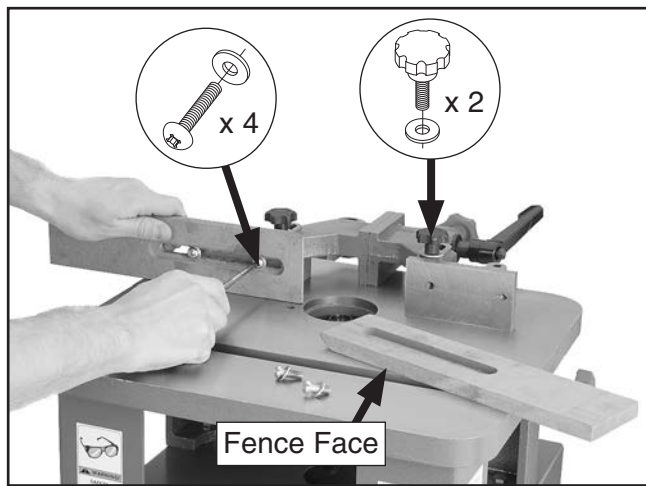

Figure 12. Mounting fence faces to fence assembly.
8. Use (2) 8mm fender washers and M8-1.25 star knobs to tighten fence assembly to table.
9. Mount fence faces to fence assembly with (4) M8-1.25 x 20 Phillips head screws and 8mm flat washers, as shown in **Figure 12**.